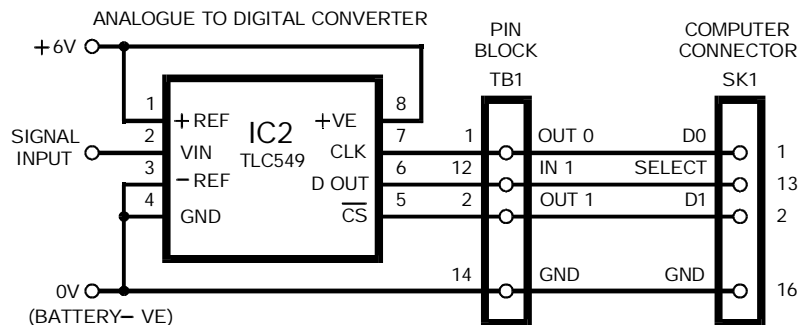

Fig.5.5 Circuit diagram for the serial analog-to-digital converter interface.
A very simple analog-to-digital converter (ADC) integrated circuit (IC) is the only active component in this part of your interface assembly. The circuit diagram for its connections is shown in Fig.5.5.
Connect the resistor/capacitor junction on the oscillator (IC1a pin 1) to the ADC at its input pin 2 (Signal Input as shown in the breadboard layout). Also connect the ADC's data output pin 6 (D OUT as shown in Fig.5.5) to IN1 on the computer interface part of the board. Crocodile-clipped links will do in both cases.